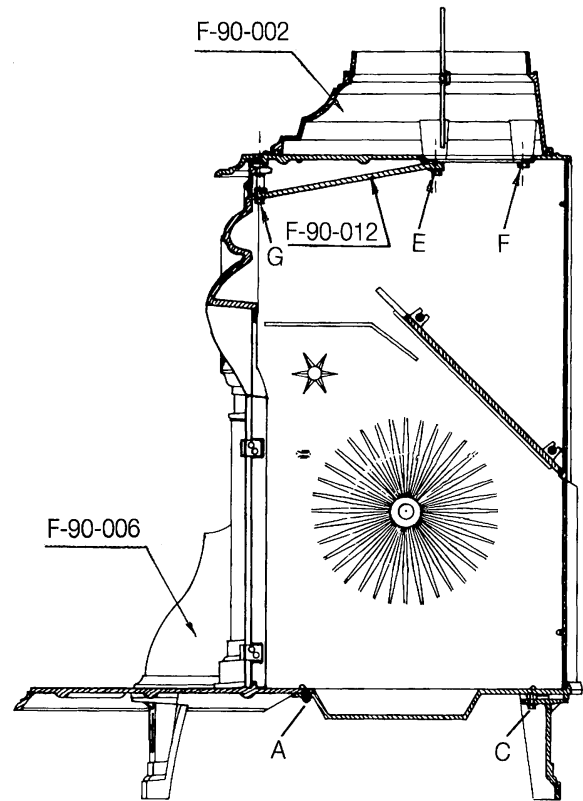

Fig. 4
7. To assemble the wings, fit them next to their own columns and fix them using four (M.6x10, roudhead) screws. (Fig. 4).